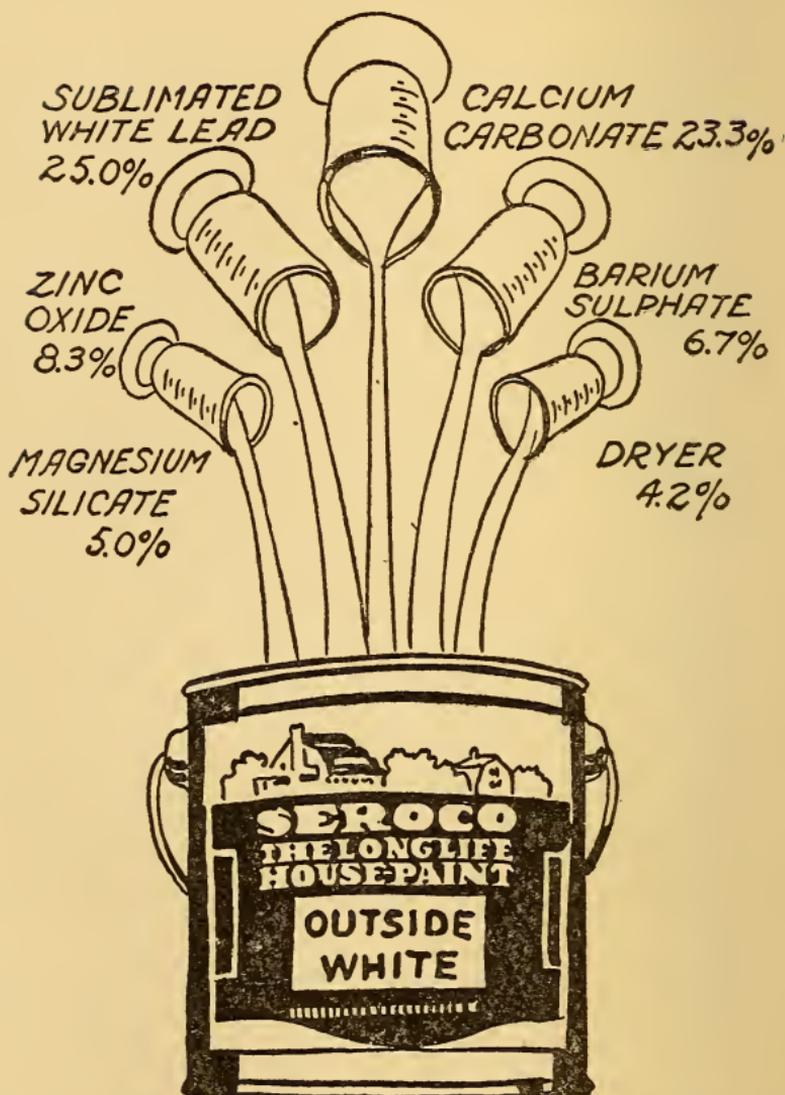

FIG. 62. WHAT THE BEST READY MIXED PAINT IS MADE OF
**About Ready Mixed Paints.**—Ready mixed paints can be had in any color, tint or shade. The main thing is to get paints that are freshly made even in cans as nearly all ready mixed paints lose in value when they get old. For small jobs, though, they are cheaper, and are great time and trouble savers. The constituents of a good mixed white paint are shown in Fig. 62.